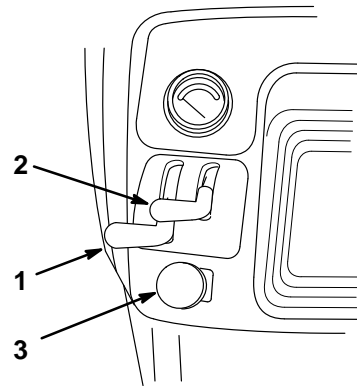

Figure 12
3. Push the PTO (power take off) switch to OFF (Fig. 12).
4. Move the choke lever to ON (if the engine is cold) (Fig. 12).
5. Move the throttle lever halfway to FAST (Fig. 12).
7. After the engine starts, gradually move the choke lever to OFF (Fig. 12). If the engine stalls or hesitates, move the choke lever back to ON for a few seconds. Then move the throttle lever to the desired setting.
1. Move the throttle lever to SLOW (Fig. 12).